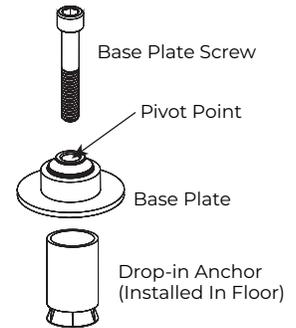

Figure 3 Bottom Pivot
1. Install door portion into prepared door with four (4) 1/4-20 x 5/8" machine screws or #14 x 1-1/2" wood screws. (Figure 3)